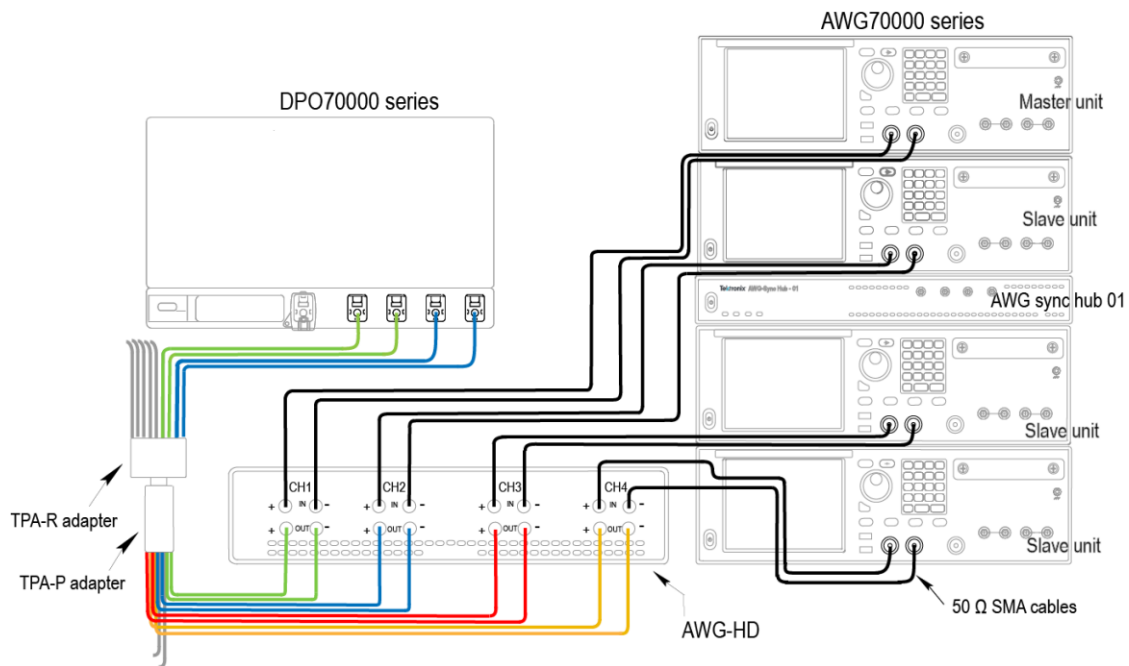

Figure 1: Calibration setup
3. Connect the AWG-HD, DPO70000, and needed adapters and other equipment, depending on your use case. (See Figure 1.) and (See Figure 2.)